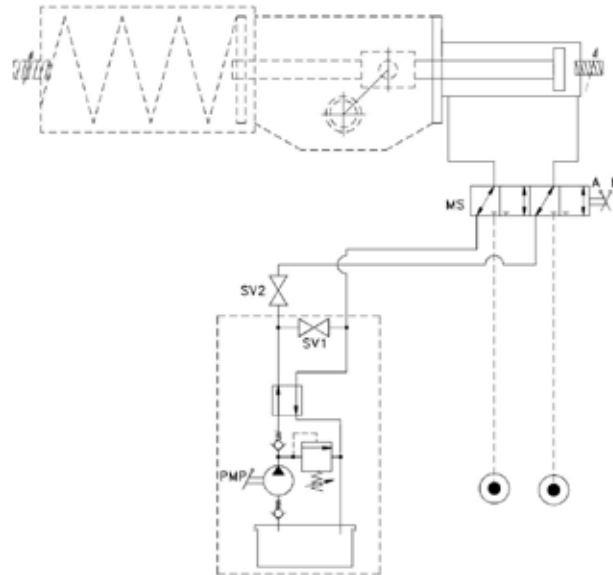

Figure 18 – Hydraulic Diagram of Manual Override for LHS Single Acting
3.1.4.1.2 With reference to the schematic diagram (Figure 18), switch the manual selector MS in manual position “M” and switch the manual valve SV1 in “MANUAL” position, as shown in the nameplate located nearby.